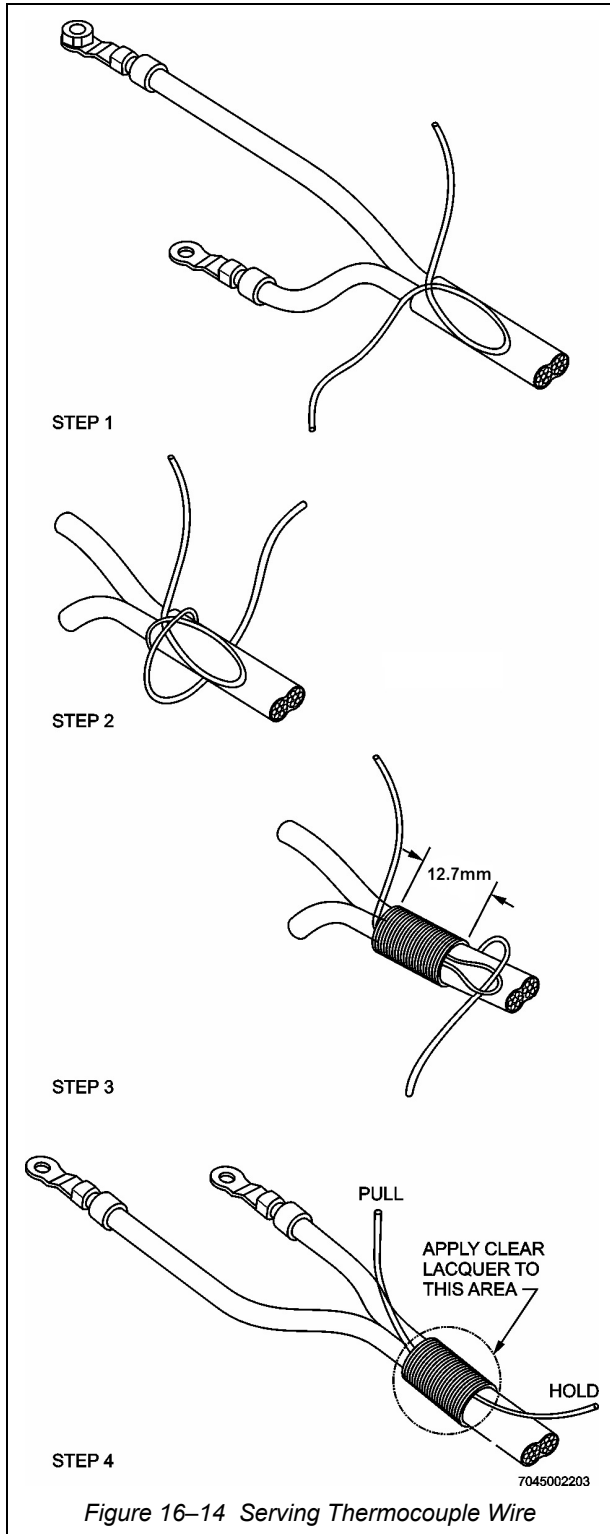

Figure 16-14 Servicing Thermocouple Wire
21. After soldering operation has been completed, and solder has cooled, serve thermocouples at the branching point as shown in Figure 16-14. Use nylon or waxed cotton cord in cool areas, and fibreglass cord in hot areas. Coat the serving with clear lacquer. The serving will prevent unravelling of the outer jacket.